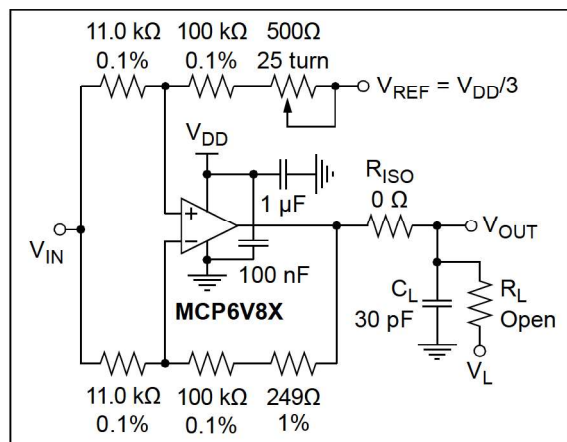

FIGURE 1-6: Test Circuit for Dynamic Input Behavior.
- Note 1:** These parameters were characterized using the circuit in Figure 1-6. In Figures 2-36 and 2-37, there is an IMD tone at DC, a residual tone at 1 kHz, and other IMD tones and clock tones. IMD is Referred to Input (RTI).
The circuit in Figure 1-6 tests the input's dynamic behavior (i.e., IMD, t_{STR} , t_{STL} and t_{ODR}). The potentiometer balances the resistor network (V_{OUT} should equal V_{REF} at DC). The op amp's Common-mode input voltage is $V_{CM} = V_{IN}/2$. The error at the input (V_{ERR}) appears at V_{OUT} with a noise gain of 10 V/V.